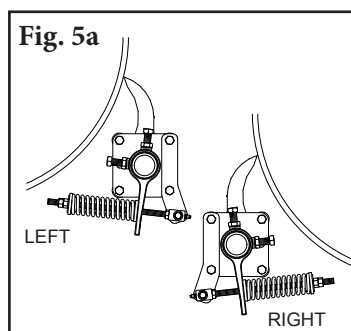
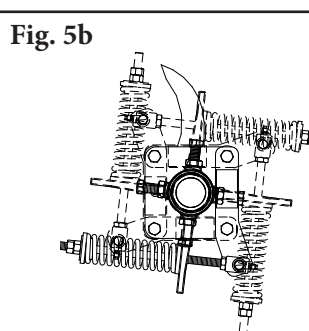

Fig. 5a
Fig. 5b
6. **Install the tensioner.** Determine desired side and position (Fig. 5a) (the tensioner can be installed in any position 360° around the pole as shown in Fig. 5b) and remove the two mounting plate bolts needed to install the pivot shaft bracket. With the pivot rod inserted through the slotted hole of the torque arm, slide the two components onto the pole together. Using the long bolts provided, fasten the pivot shaft bracket to the mounting plate and tighten (Fig. 5c).